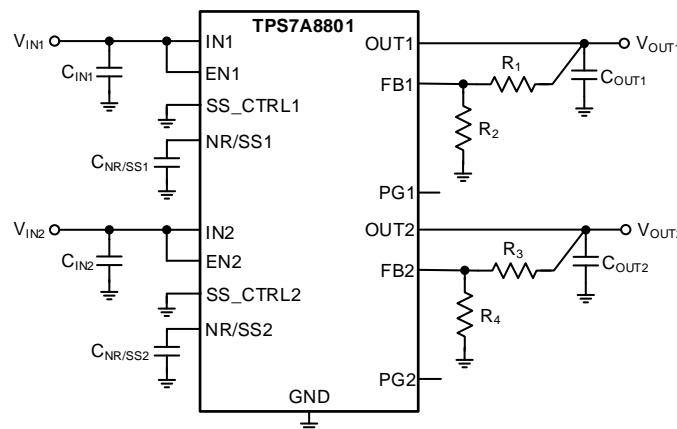

图 42. Adjustable Operation
The output voltages of the TPS7A8801 can be adjusted from 0.8 V to 5.0 V by using resistor divider networks as shown in 图 42.
(1) R₁, R₃ are connected from OUTx to FBx; R₂, R₄ are connected from FBx to GND; see 图 42.